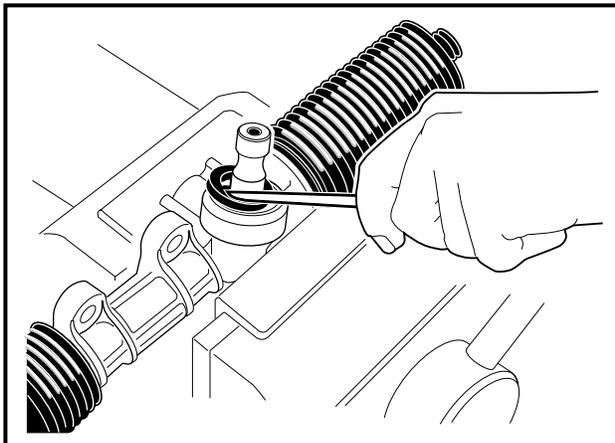

Figure 7-7 Remove Dust Seal
8. Remove the dust seal (12) (**Figure 7-13, Page 7-11**). See also **Figure 7-7, Page 7-7**.